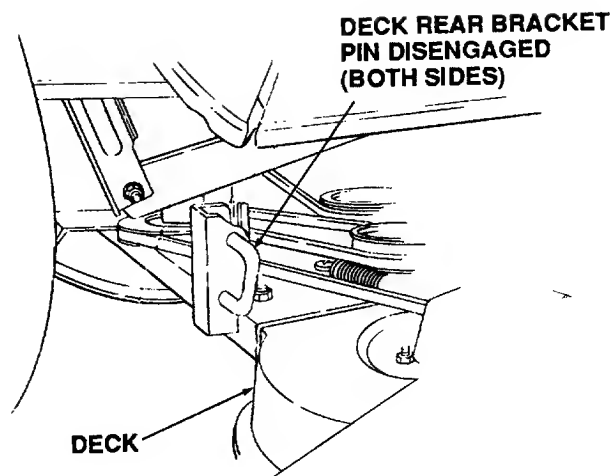

Figure 52
9. If not previously accomplished, pull the deck rear bracket pins outward, turn downward and release so both spring-loaded pins are held against the outside surface of the brackets in their disengaged positions (Refer to Figure 52).